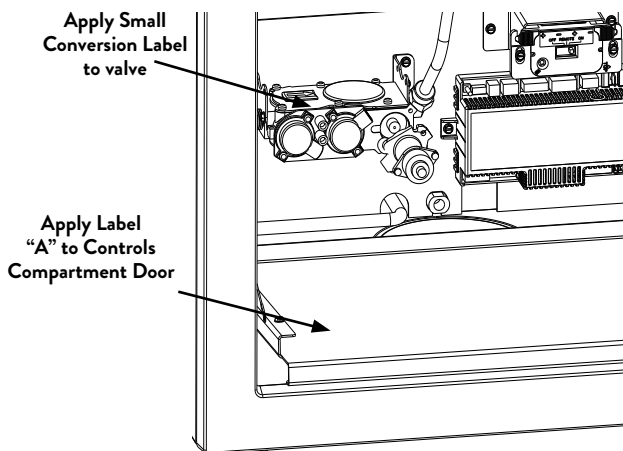

Figure 7.6.
- **Label A:** apply to the Controls Compartment Door, near the lighting instructions. Fig. 7.6.